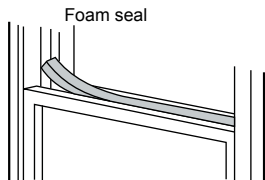

Fig. 11
5. Cut the foam seal to an appropriate length and seal the open gap between the top window sash and outer window sash. Shown as in Fig. 11.